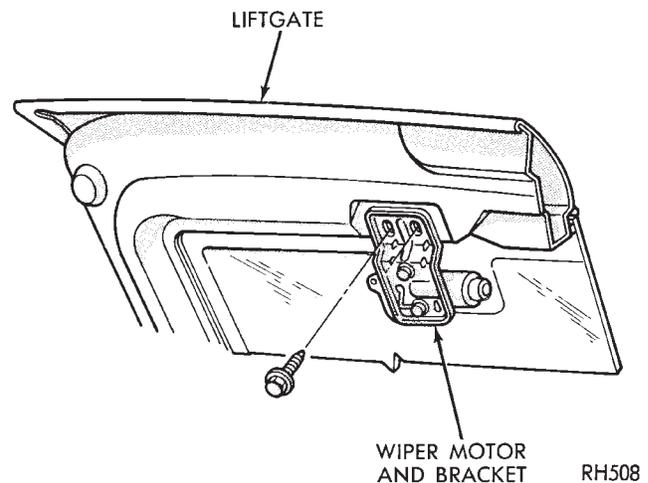

Fig. 18 Liftgate Wiper Motor—AG Body
- (6) Remove two screws fastening bracket to liftgate (Fig. 18).